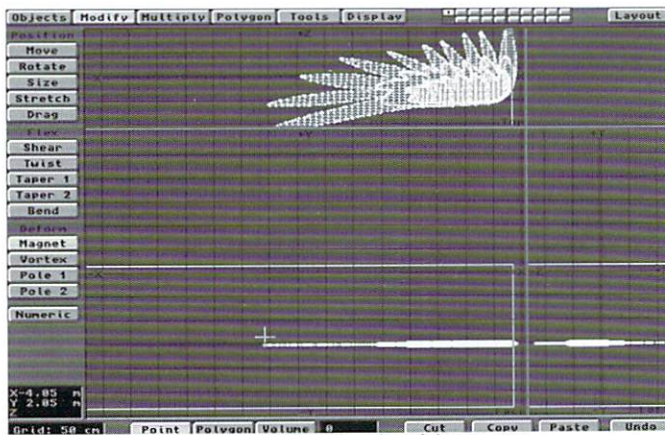
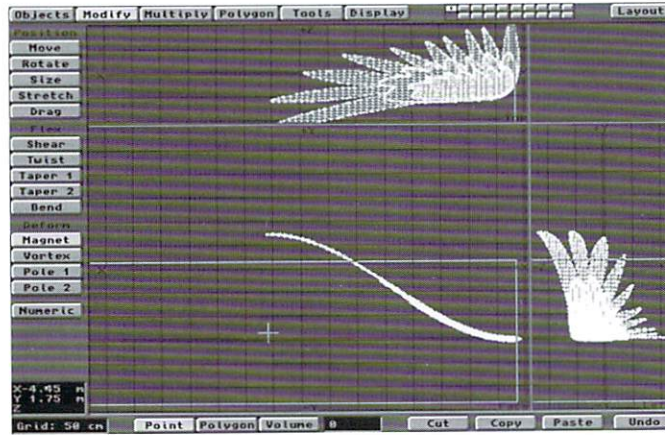

Figure 21: The Magnet tool centered on the edge of the wing tip.
Figure 22: The wing tips with a rounder curve.
1), change the Magnet tool's bounding box size and position so that the center point is now located at the edge of the wing tip, as in Figure 21. Drag the mouse upward. The curve of the wing is now affected a bit differently, giving the tips a rounder curve toward the top, as shown in Figure 22. Save this out as "WM_R-MidUp.lwo." Once again write down the Magnet tool's Numeric settings for use on the left side versions, and return the object to normal by hitting Undo.